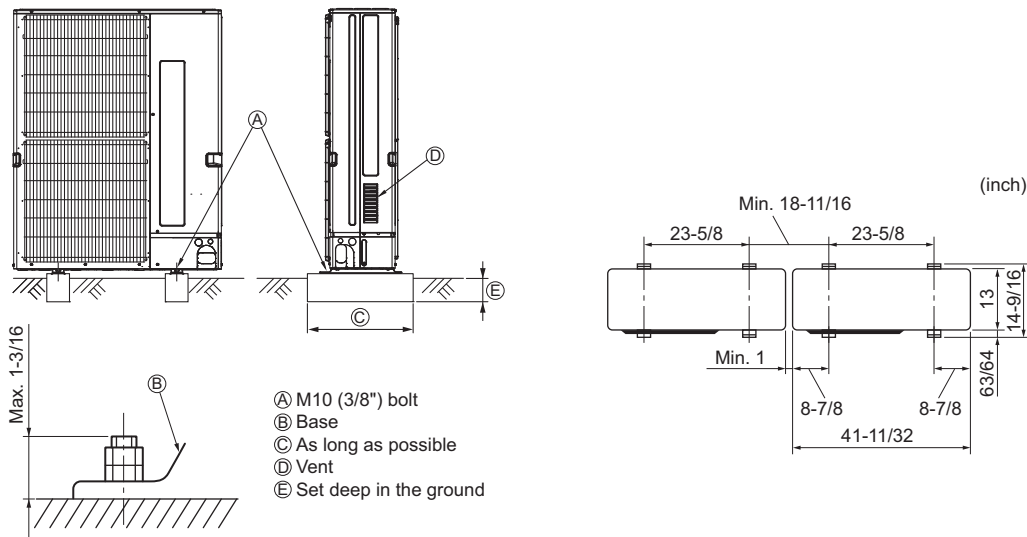

Fig. 12-1-3
- A. Be sure to install the unit in a sturdy, level surface to prevent rattling noises during operation. (see Fig. 12-1-3)